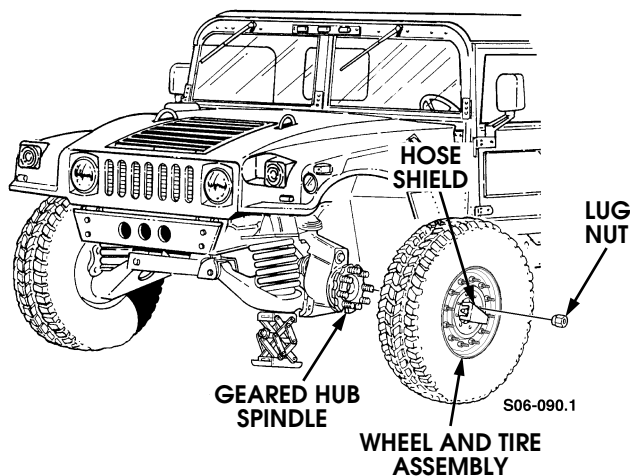

Figure 6-1: Wheel and Tire Assembly Replacement
3. Loosen, but do not remove, lug nuts (Figure 6-1).
1. Position wheel on geared hub spindle according to marks on mounting studs and attach with lug nuts (Figure 6-1).